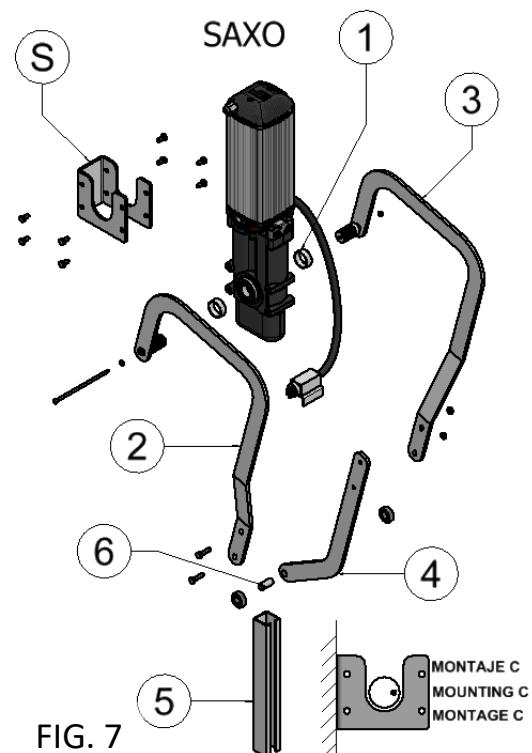

FIG. 7
Fitting Figure 7
2. The point marked on the right-hand pivot axis of the 2RU* unit shall be as shown in figure 7. Before fitting parts 1, 2, 3 and 4 in figure 7 to the unit as shown in figure 7, turn the axis of the unit by 5° in the opposite direction to the stop position, then fit parts "5" and "6" in figure 7.